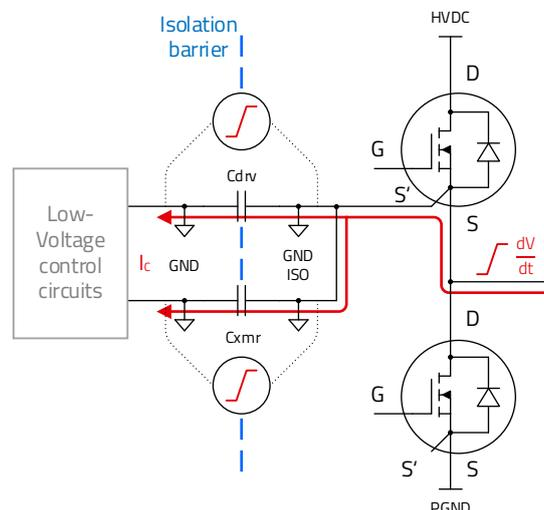

Figure 7: Displacement Currents across the isolation barrier parasitic capacitance caused by very high dV/dt in a half-bridge configuration
Isolated gate driver ICs in the market use different techniques to transfer the control signal information across the isolation barrier (i.e. capacitive coupling, magnetic coupling, optical coupling, etc.). In the auxiliary power supply, the energy is transferred via the magnetic field using a transformer. In both cases, a parasitic capacitance exists across the isolation barrier, and in the case of the auxiliary supply, it corresponds to the transformer's interwinding capacitance. In the previous example of the half-bridge configuration, the very high dV/dt generated during the switching transition, in addition to ringing and Miller effect turn-on issues, also causes displacement currents through the isolation barrier parasitic capacitance of the high-side gate drive circuit, between the high-voltage side and the low-voltage side, where the controller and sensitive circuitry reside (Figure 7). Note that the isolated 'ground' or 'reference' of the high-side gate driver (GND_ISO or RTN) is directly connected to the source terminal of the SiC device and, in turn, to the SW node which is subject to high dV/dt transitions. Conversely, the low-voltage 'ground' or 'reference' (GND) is kept to a constant voltage (DC). The generated displacement current ($i_c(t)$) across the total isolation barrier parasitic capacitance (C_{pt}) is approximated as: